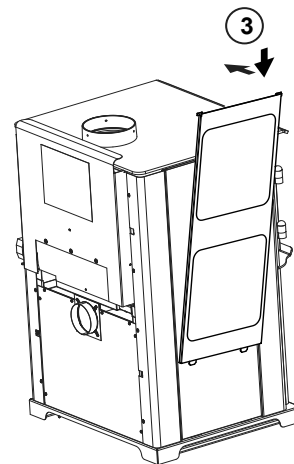

Figure 25.6
4. Reattach tile frame (**Figure 25.6**).